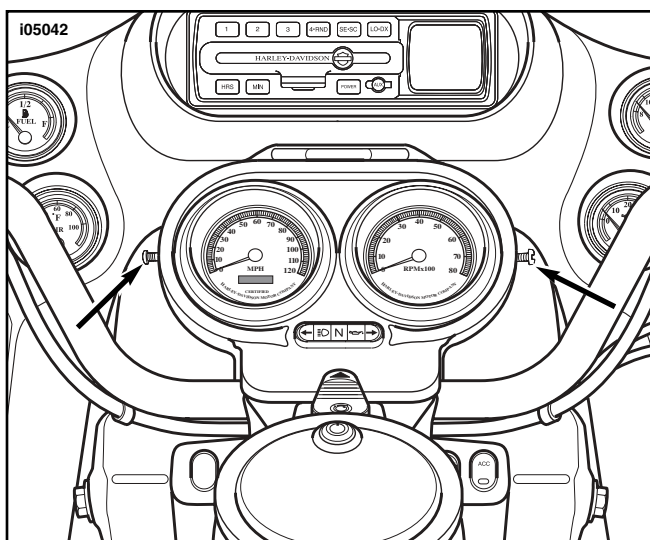

Figure 1. Instrument Bezel Screws
2. See Figure 1. Using a T25 TORX drive head, remove screw on left and right side of instrument bezel.